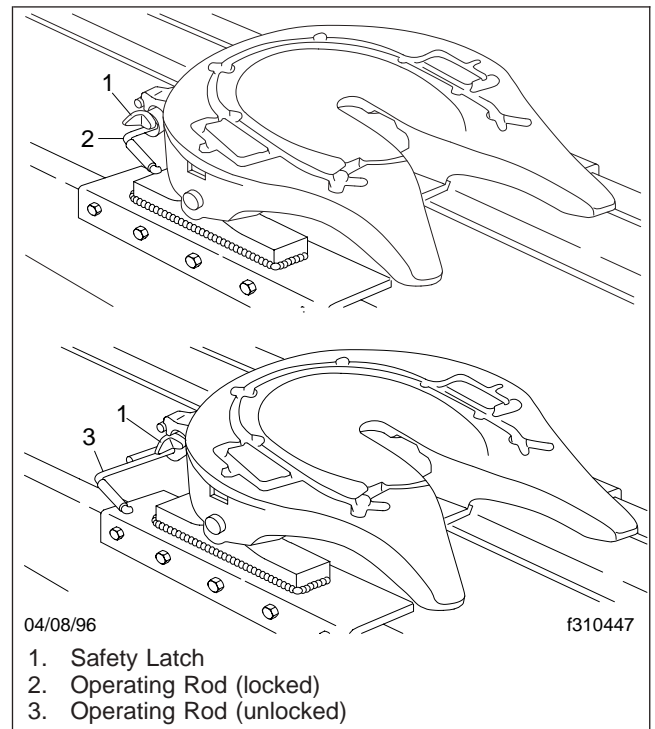

Fig. 10.13, Simplex Kingpin Locking Mechanism, Locking and Unlocking
pin to move out of the mechanism. With the jaw in the fully open position, the operating rod drops out of the lockset position, and the fifth wheel is ready for coupling. See Fig. 10.13.
- If equipped with a manual kingpin lock release:* Release the kingpin lock mechanism by raising the safety latch to the rear and pulling the lock operating rod out and up into the lockset position. See Fig. 10.13. The offset of the lock control upper rod should bottom against the plate casting above the hole. If the operating rod cannot be pulled to the lockset position, back the tractor slightly to release the kingpin force against the jaw.